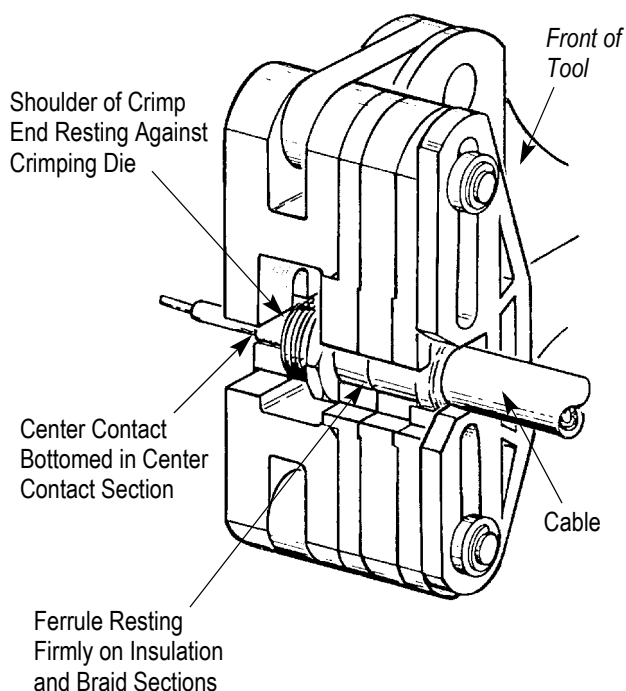

Figure 3
2. Position the crimp end on the anvil crimping die with the cable extending from the FRONT side of the tool. Make sure the center contact and ferrule are resting firmly in the crimping chamber. Refer to Figure 3.